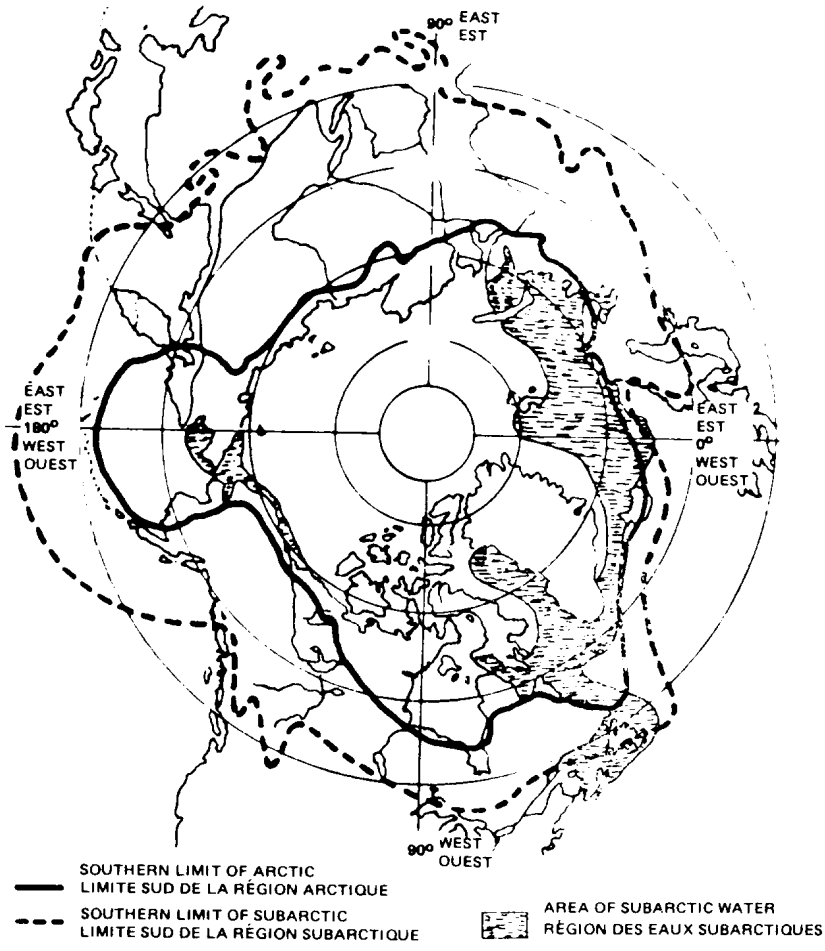

Figure 1-1 Geographical Division Between the Arctic and Subarctic Environments
1. The arctic, subarctic, and the cold temperate regions of the Northern Hemisphere all have a winter season of varying length and intensity. Part 11 of this manual, Unit and Formation Tactics, describes the terrain and climate of the arctic and subarctic environments. Figure 1-1 shows the geographical division between the arctic and subarctic regions. These two regions include most of Canada, Alaska, and Northern Europe; the major winter operational zones for Canadian Forces.